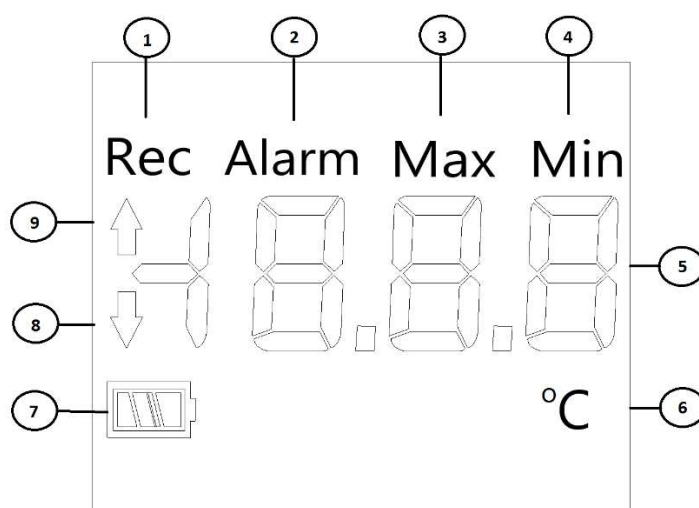

Figure 3 LCD Display Format
- Sensor input can be connected with device sensor connector by referring the figure 3 and Table 5.